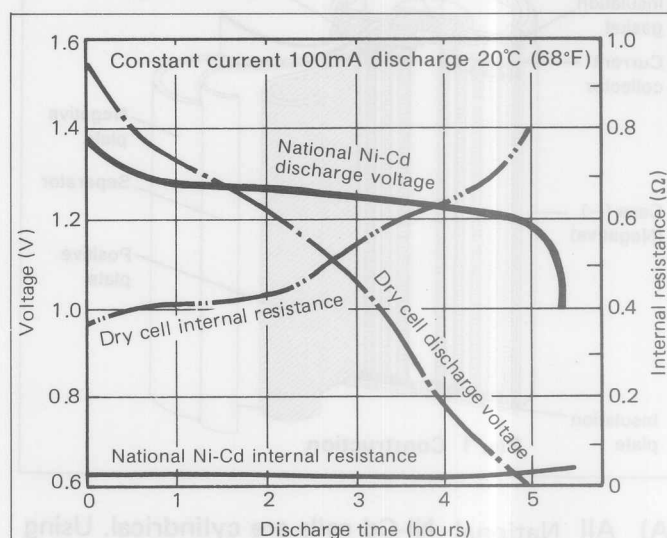

Fig. 2 Comparison of discharge performance of National Ni-Cd vs. dry cells (Example: size AA)
- (A) The discharge characteristics of National Ni-Cd cells are extremely flat when compared to those of dry cells. The initial power of a dry cell is 1.5V, whereas that of the National Ni-Cd cell is 1.2V. But, as shown in Fig. 2, the voltage of the National cell is higher for the largest portion of the discharge curve.